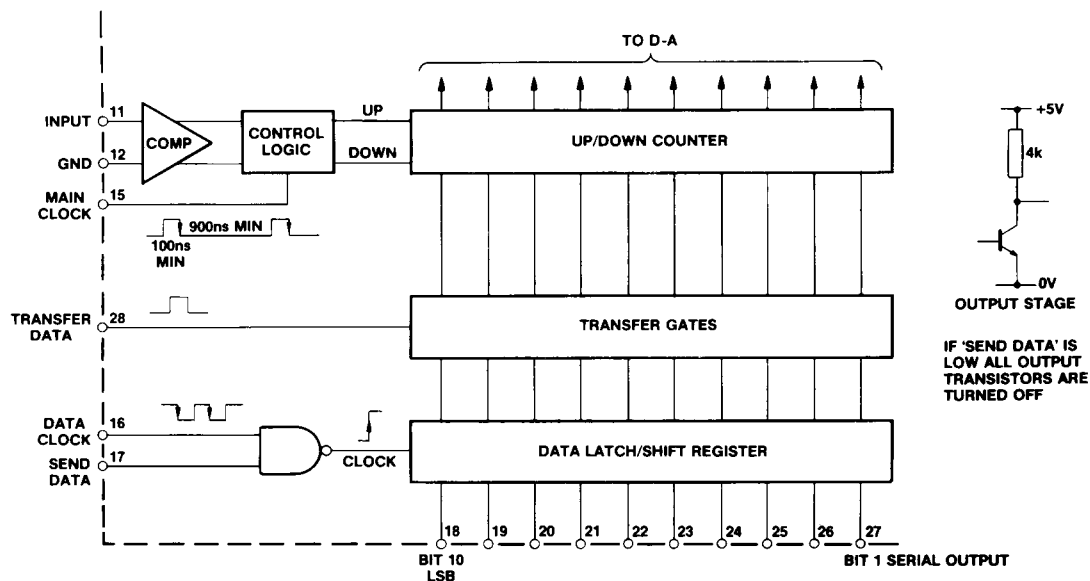

Fig.5 Logic system
3. For main clock waveform see Fig.5. Input signals which do not change by more than $1\text{LSB}/\mu\text{s}$ may be tracked continuously without the need for a sample and hold. This corresponds to a full-scale bandwidth of 300Hz . Higher frequencies may be tracked if the amplitude is reduced, e.g. the half full-scale bandwidth is 600Hz .